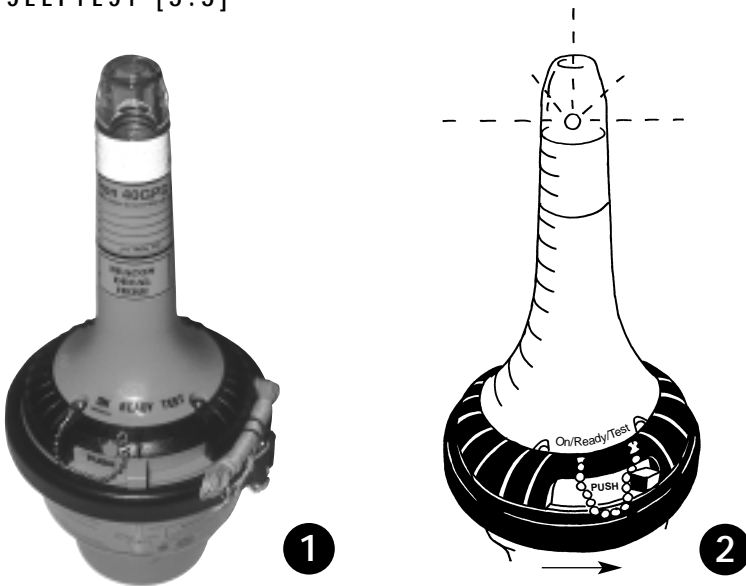

FIG. 5
5.1 REPLACING THE RELEASE MECHANISM [FIG. 5]
2. Unscrew the plastic bolt [FIG 5] (1) by screwing it counter clockwise and remove the hydrostatic release mechanism [FIG 5] (2).